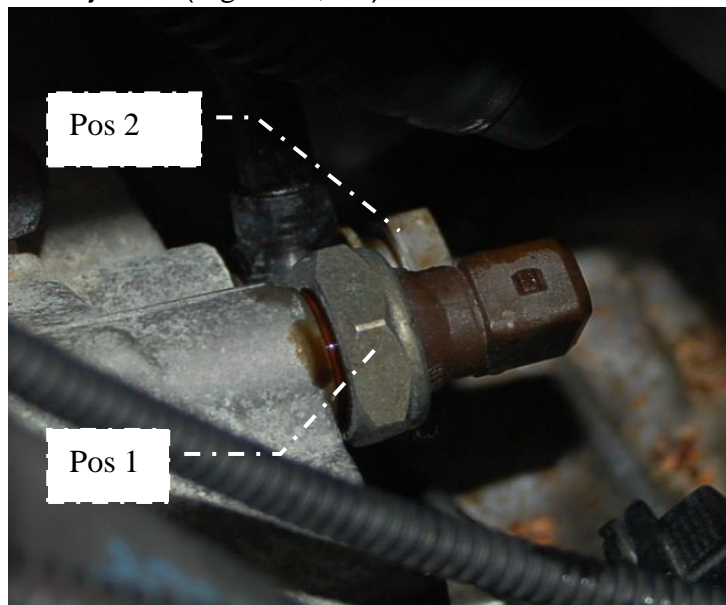

Figure 13
27. Dismount oil pressure sensor (Figure 13, #1) on the oil filter housing.
28. Remove the banjo bolt (Figure 13, #2).